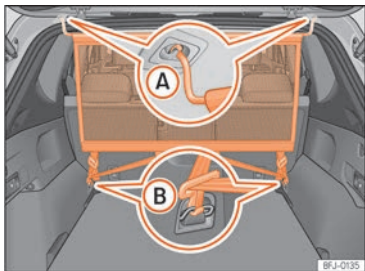

Fig. 203 Net partition fitted.
- Hook the net partition to the left-hand side roof housing »» Fig. 203 (A).
- Hook in the net partition on the rear right-hand side roof housing by pressing on the bar »» Fig. 203 (A).
- Secure two hooks of the partition net to the fastening rings of the boot »» Fig. 203 (B) and tighten the straps firmly.
- Release the net hooks from the fastening rings »» Fig. 203 (B).
- Unhook the net partition on the right-hand side roof support »» Fig. 203 (A) by pressing on the cross rod.